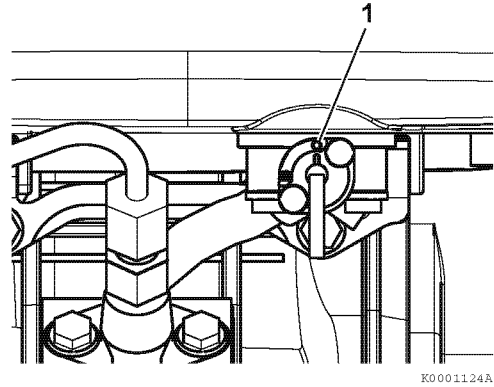

Figure 10
2. Make sure the fuel cock is in the ON position (1, **Figure 10**).